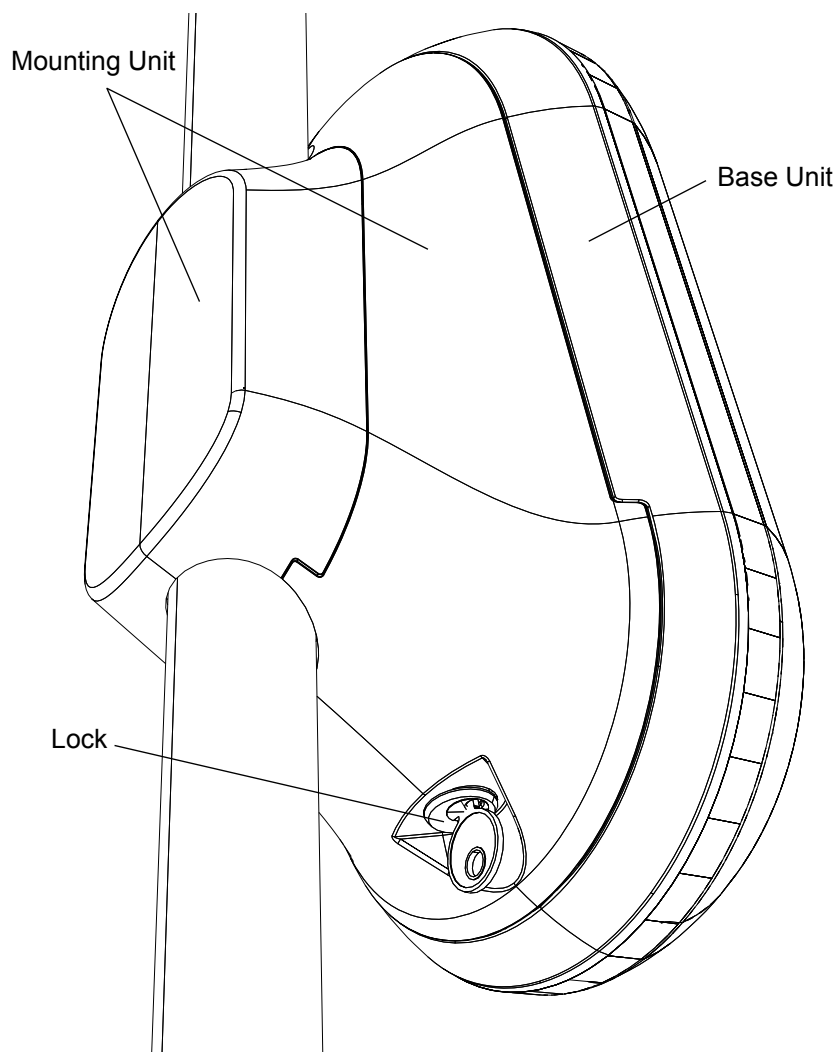

Figure 6-32 Lock
STEP 14: Lock the device as shown in **Figure 6-32**.